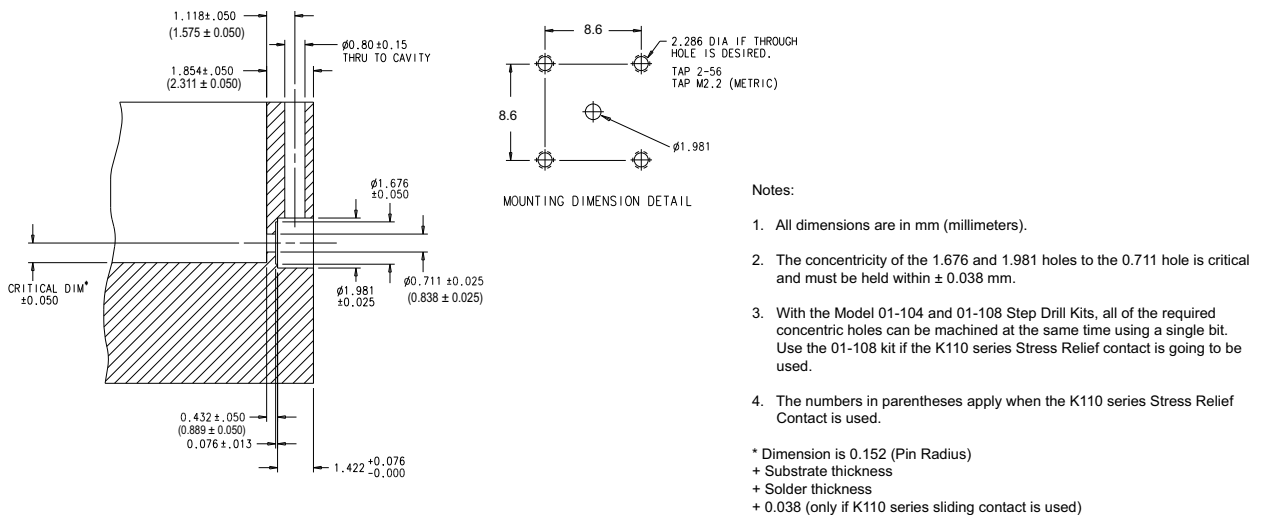

Figure 8-1. K104F-R Machining Dimensions for the Flange Mount Connector Mounting Holes
Machining dimensions for the mounting hole required for installation of the microstrip to K female flange mount connector are provided in **Figure 8-1** below.
Caution The three holes shown in Note 2 of **Figure 8-1** must be concentric within ± 0.038 mm. If they are not, connector performance will be degraded. To make this required concentricity easier to achieve, custom made drill-bit kits, Models **01-104** and **01-108**, are available from Anritsu.
- K104F-R: Figure 8-1 on page 8-1